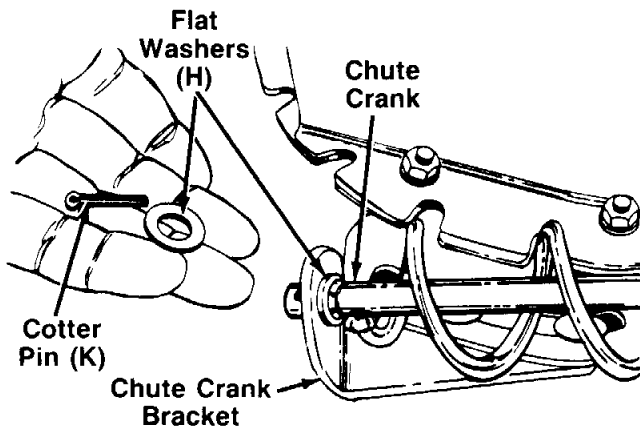

FIGURE 10.
13. Place one flat washer (H) on the end of the chute crank, then insert the end of the crank into the hole in the plastic bushing in the chute bracket. See figure 10. Place the other flat washer (H) on the end of the chute crank, and insert cotter pin (K) into hole in the end of crank. Secure by bending the ends of cotter pin in opposite directions.